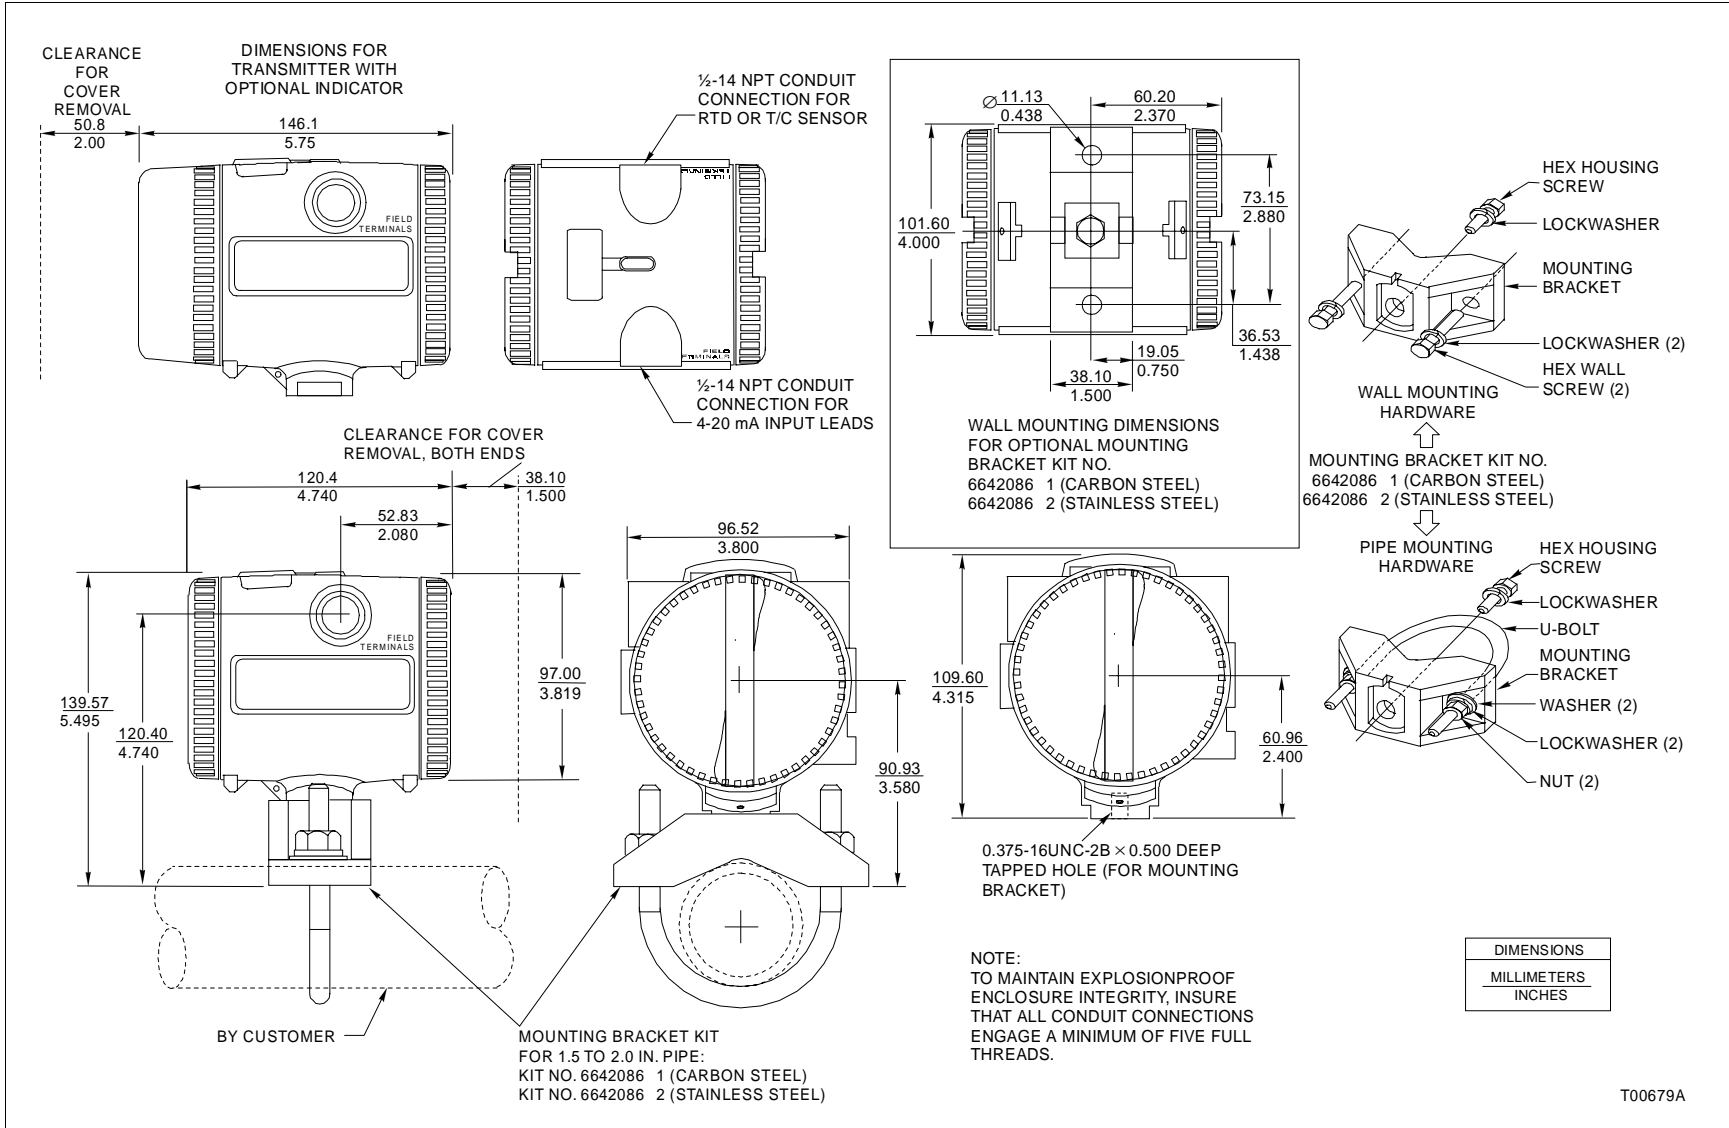

Figure I3-1. External and Mounting Dimensions
The mounting bracket kit allows the transmitter to be mounted to a 1.5 to 2.0-inch pipe. Refer to Figures I3-1 and I3-2 as visual aids when performing this procedure.
1. Position the mounting bracket on the bottom of the electronics housing as shown in Figure I3-1.